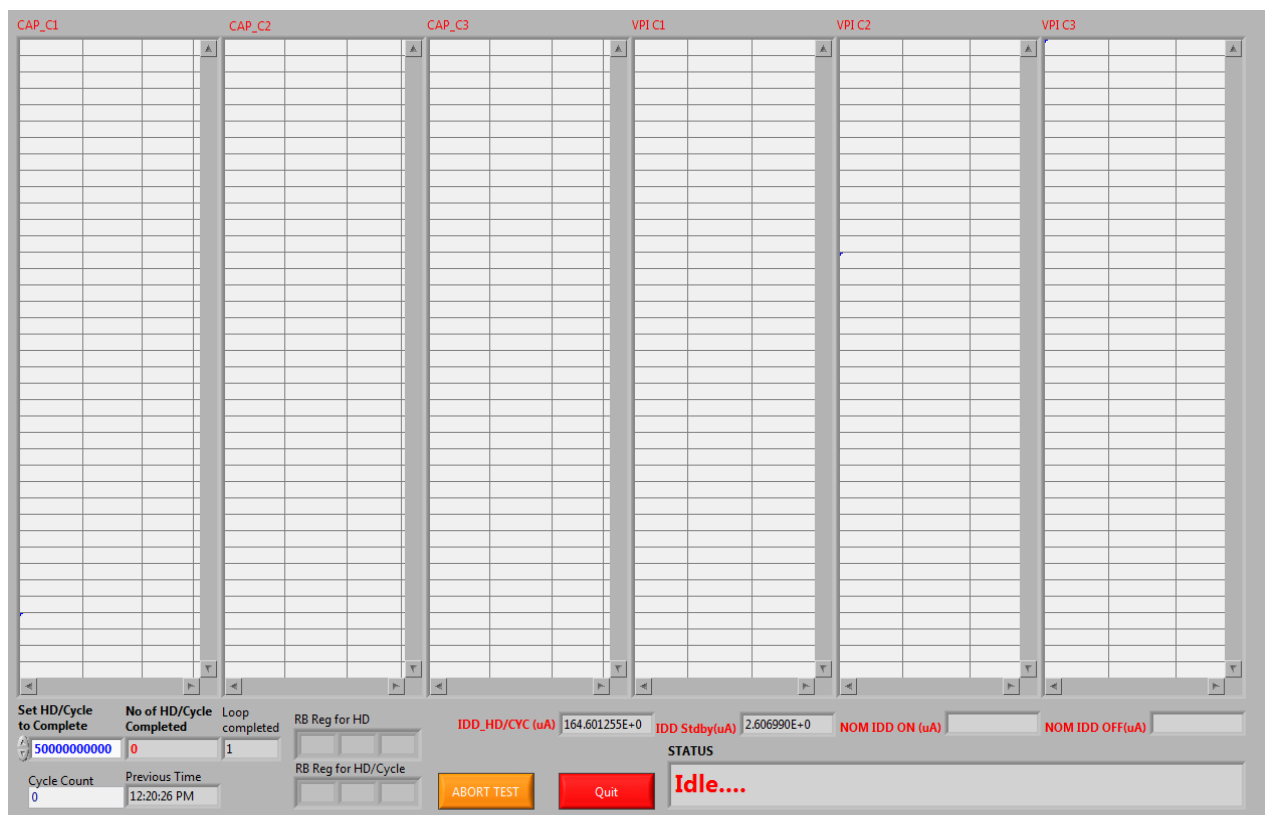

Figure 11 This Front Panel will display the capacitance values at every read point
- The front panel (Figure 11) displays the capacitance values for every read point.